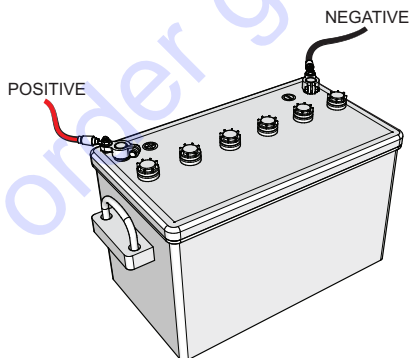

Figure 8. Battery Connections
**ALWAYS** be sure the battery cables (Figure 8) are properly connected to the battery terminals as shown below. The **red cable** is connected to the positive terminal of the battery and the **black cable** is connected to the negative terminal of the battery.